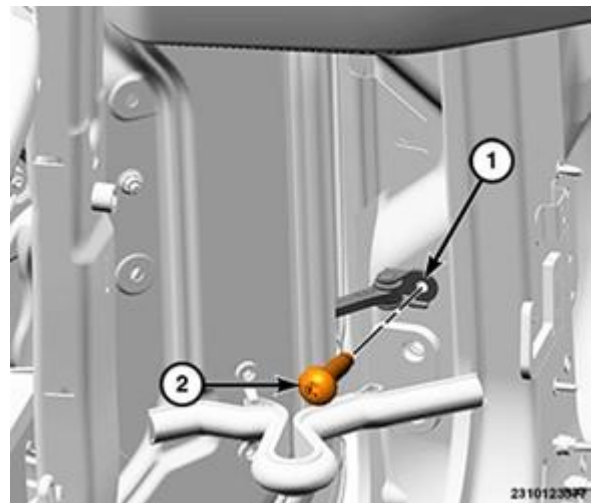

Figure 21 – Door Check Bolt
38. Remove the bolt (2) securing the door check (1) (Figure 21).
83. Install the door check strap bolt securing the door check and tighten to 9N·m (80 in. lbs.) (Figure 21).